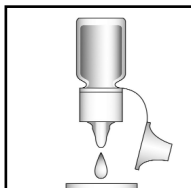

Figure 1
3. Add 5 drops of A-6002 Activator Solution (fig. 1).